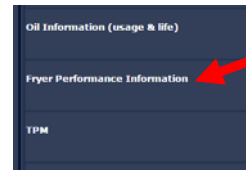

Figure 23
24. Clicking on Fryer Performance Information displays Initial Heat up Recovery Time and Average Heat up Recovery Time per vat (see Figure 23).